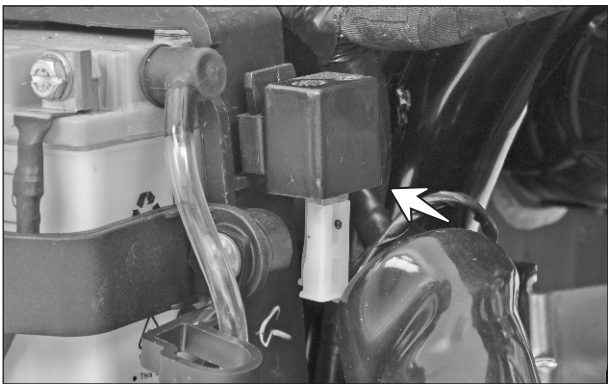

Fig. 5.26
- The DC output from the ignition lock is connected to the switch turn signal through a electronic flasher unit mounted below the seat assembly near the battery. (Fig. 5.26)